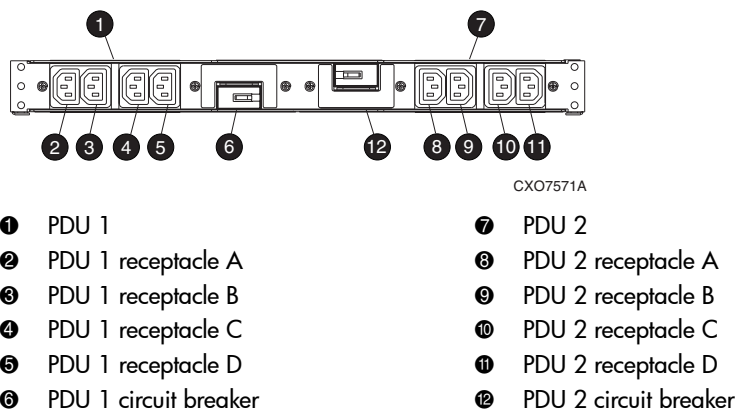

Figure 57: Enterprise Rack Dual PDU assembly major components
The dual PDU assembly mounts in the lower rear of the rack. See Figure 57. This assembly contains two PDUs: PDU 1 ❶ and PDU 2 ❷. Each PDU has a 250-VAC, 30-A circuit breaker (❸ and ❹) and four IEC 320-C13 AC output power receptacles (❷ through ❹, and ❺ through ❸). The circuit breakers and AC receptacles are accessible when the PDU assembly is in the upright position.